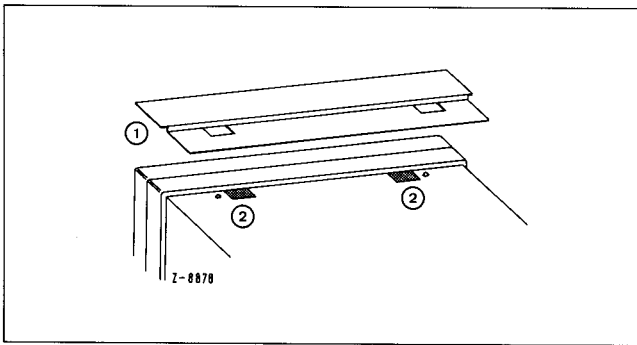

Fig. 3 Mounting the dust guard
1. Affix double-sided scotch tape on the upper side of the case (see Fig. 3).